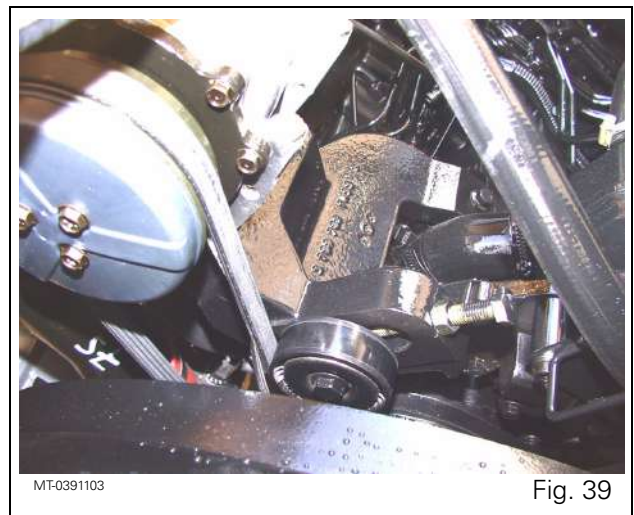

Fig. 39
- "Poly V" belt: Fig. 39: Loosen the tensioner to release the belt. After replacing it, retighten the tensioner.